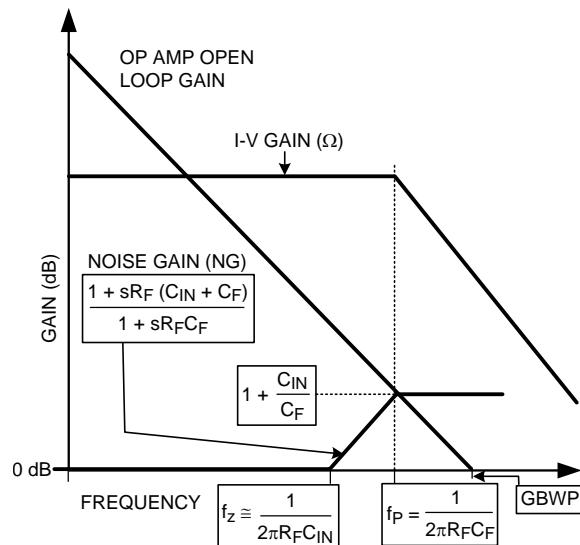

Figure 61. Transimpedance Amplifier Noise Gain and Transfer Function
Figure 61 shows the Noise Gain (NG) and transfer function (I-V Gain). As with most Transimpedance amplifiers, it is required to compensate for the additional phase lag (Noise Gain zero at  $f_z$ ) created by the total input capacitance (  $C_D$  (diode capacitance) +  $C_{CM}$  (LMH6629 CM input capacitance) +  $C_{DIFF}$  (LMH6629 DIFF input capacitance) ) looking into  $R_F$ . This is accomplished by placing  $C_F$  across  $R_F$  to create enough phase lead (Noise Gain pole at  $f_P$ ) to stabilize the loop.